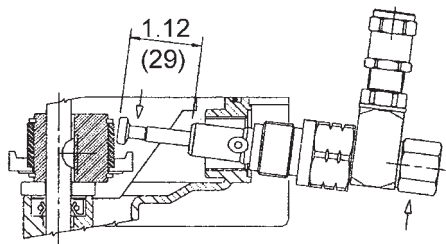

Figure 2b
4. Insert cartridge into housing at approximately a 15 degree angle as shown in figure 2b.